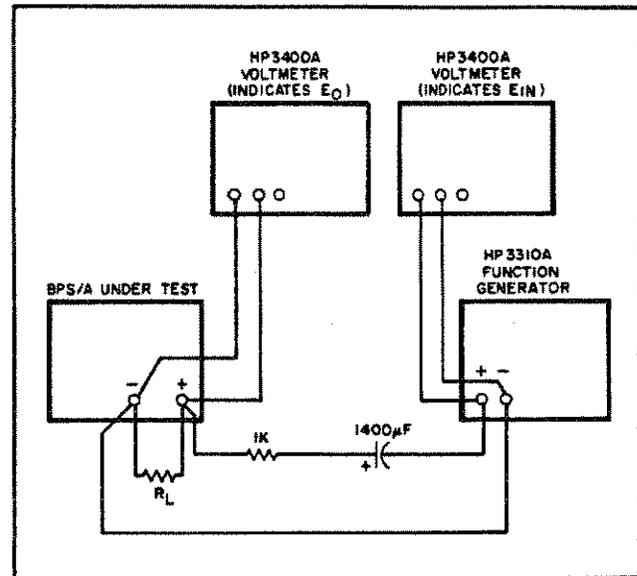

Figure 5-8. Output Impedance, Test Setup
- a. Connect test setup as shown in Figure 5-8.